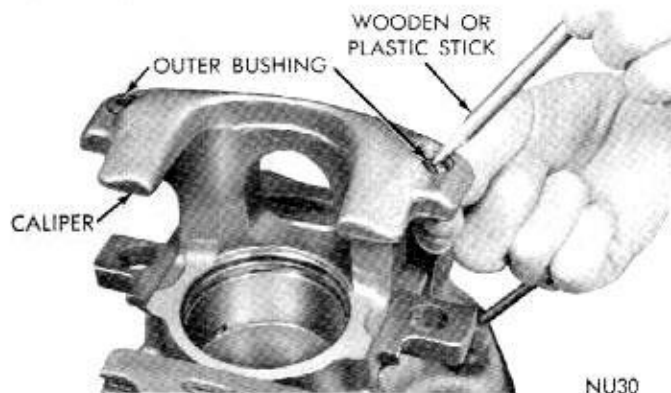

Fig. 13—Removing Outer Bushings
- (6) Remove outer bushings from caliper by pressing out of bore (Fig. 13), using a suitable tool. Discard bushings.
- (7) Slide inner bushings (flanged) off guide pins and discard. Remove positioners from guide pins and discard.
(5) Remove outer bushings from caliper by pressing out of bore, (Fig. 13) using a suitable tool. Discard bushings.
(6) Remove inner bushing and discard. Remove bleeder screw.